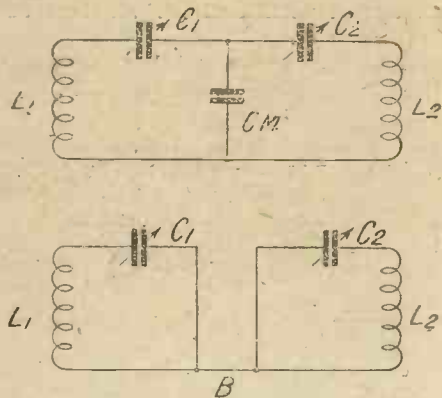

Fig. 4.—If C_M is very large, the circuits become completely isolated.
Consider, for example, the two circuits shown by Fig. 4. If we increase the value of C_M until it becomes a short circuit the arrangement may be redrawn, as shown by Fig. 4 (B); and it will readily be appreciated that if the coils L_1 and L_2 are not magnetically coupled together, then there is no coupling at all between these two circuits.